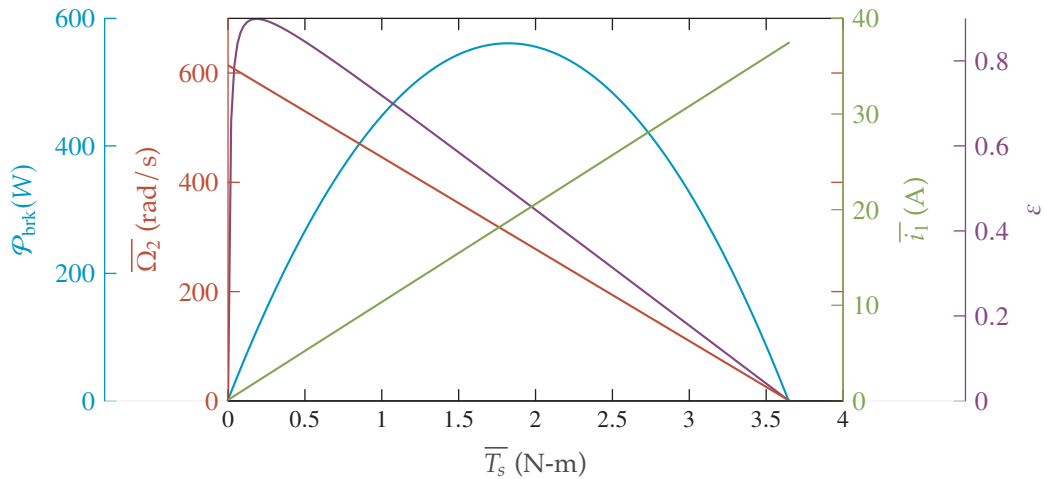

Figure 4.24. The motor curve figure 4.13.
**Problem 4.7**  Consider the DC motor curves of figure 4.13, reproduced in figure 4.24.
3. You are to use this motor to drive a load at a constant angular speed of 100 rad/s with at least 1 N-m of torque. You wisely choose to use a gear reduction between the motor and load. What should the gear ratio be to meet the above requirements and optimize efficiency? Justify your answer in terms of the motor curves of figure 4.24.
**Problem 4.9**  **ONOMATOPOEIA** Consider the DC motor curves of figure 4.13, reproduced in figure 4.24. If this motor is running at  $400 \frac{\text{rad}}{\text{s}}$ ,